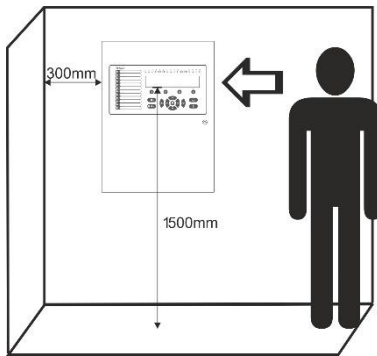

Figure 1
- The panel must be installed in a clean dry place and must not be subjected to impact or vibrations (Figure 1). It must be situated far from heating appliances. The temperature must be within -5°C and + 40°C. The fire panel is not waterproof!